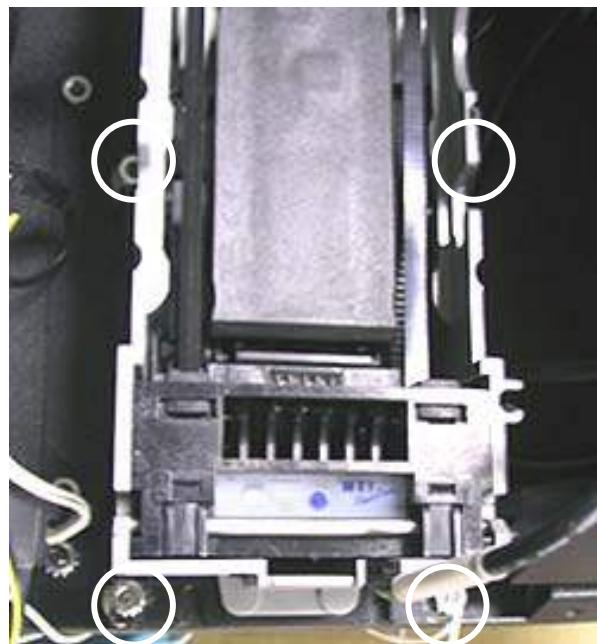

FIGURE 4 - SCREWS SECURING BILL ACCEPTOR TO MOUNTING PLATE
11. Remove the 4 nuts and spacers securing the bill acceptor to the mounting plate. See Figure 4.